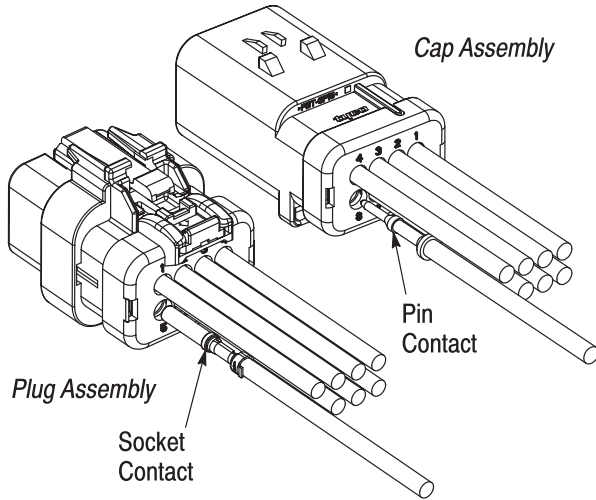

Figure 4
2. Push the contact straight into the cavity, forcing it through the wire seal. Continue to push the contact until the contact retention finger returns to its normal position behind the retention shoulder on the contact. See Figure 4.